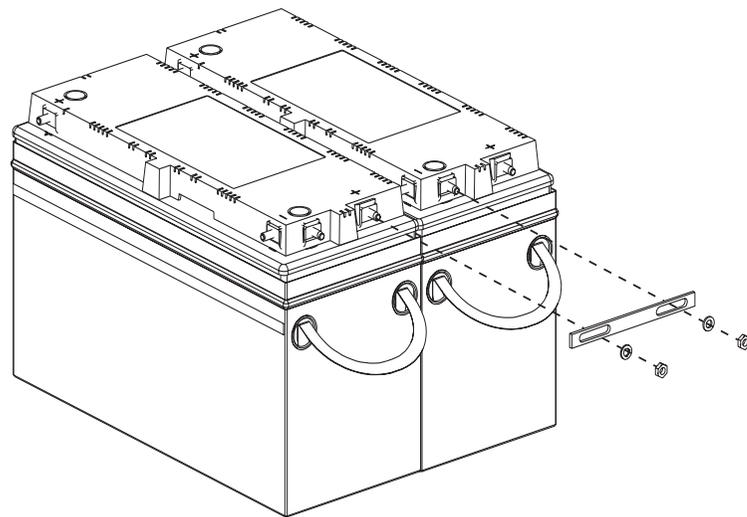

Figure 6-1: Typical Inter-battery Connection
Figure 6-1 shows a typical inter-battery connection.
6. Using 1/4-20 hardware and inter-battery bus bar provided, connect batteries into strings as determined in Step 1. (See Figure 6-1.) Torque connections to 60 in-lbs.